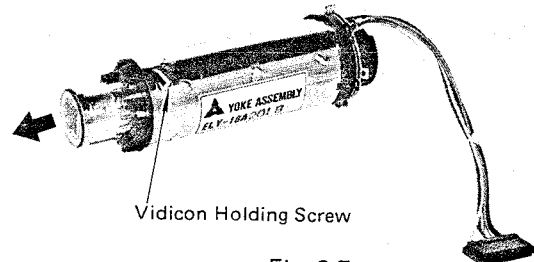

Fig. 3-7
- Loosen the vidicon holding screw and push the vidicon out (in the direction of the lens). (Fig. 3-7)